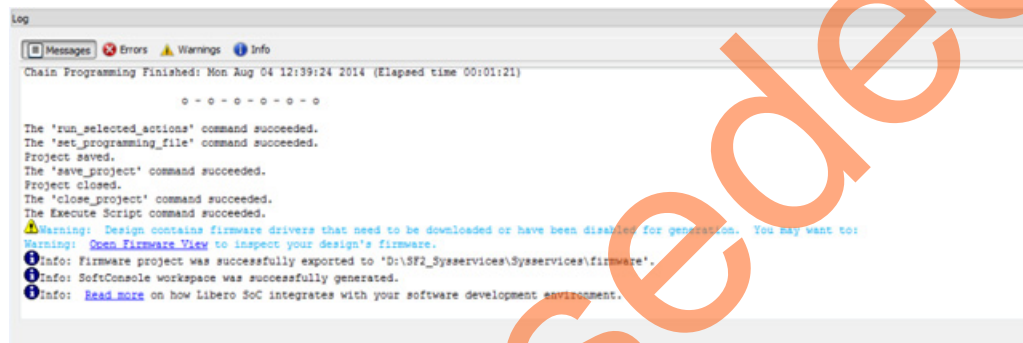

Figure 20 • Firmware Log
- Click **OK**. The log window is displayed as shown in Figure 20.